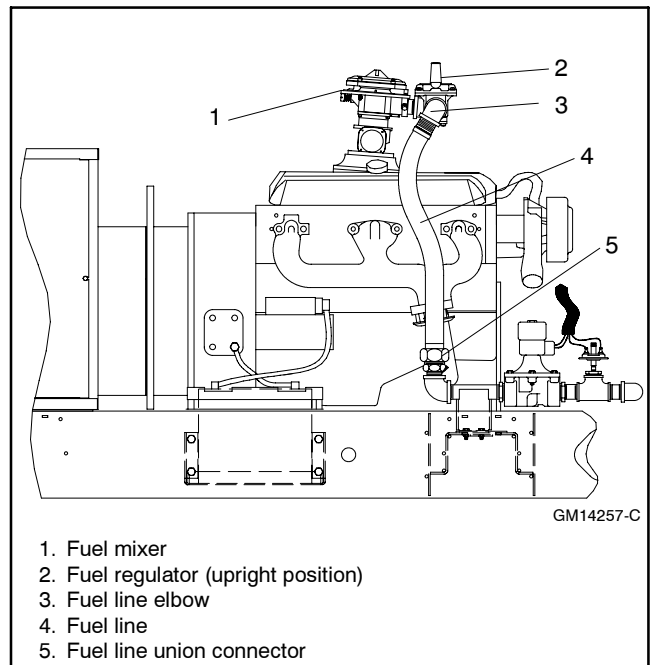
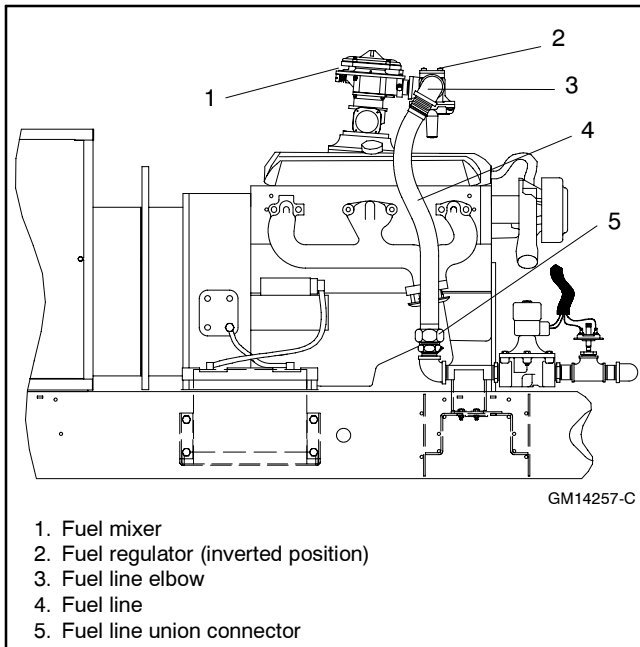

Figure 7-16 Natural Gas Fuel System Configuration
Figure 7-17 LP Gas Vapor Fuel System Configuration
Figure 7-16 and Figure 7-17 show the 50/60 kW models; the 30-45 kW and 80/100 kW models are similar.
- d. Disconnect the fuel line at the union connector. See Figure 7-16.